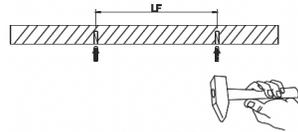

Fig. 14
3. Drill holes at a suitable position on the wall and insert the anchor sleeves into the wall (Fig. 14).